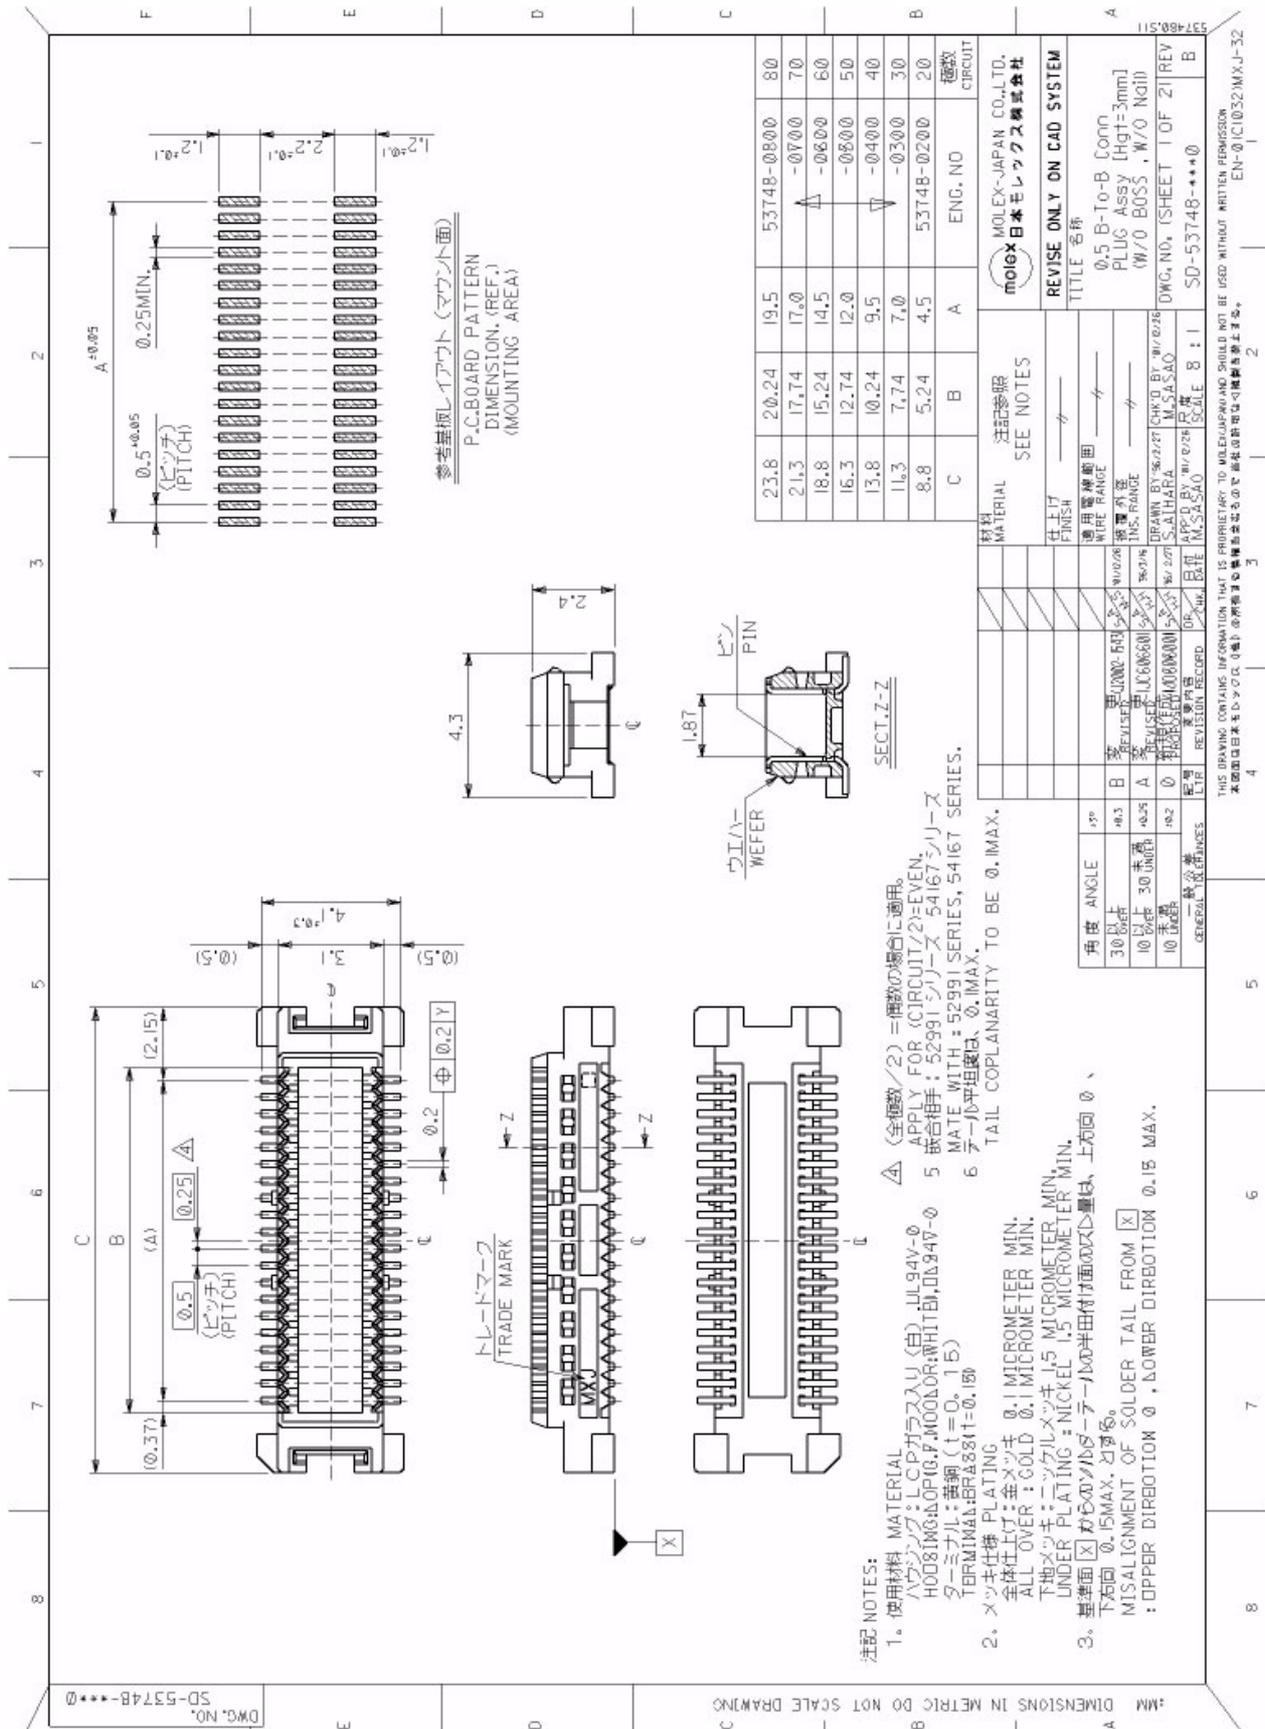

Figure 15: Mating board-to-board connector 53748-0808 on application
- 53748-0808 SlimStack Plug, 3mm stacking height, see Figure 15 for details.